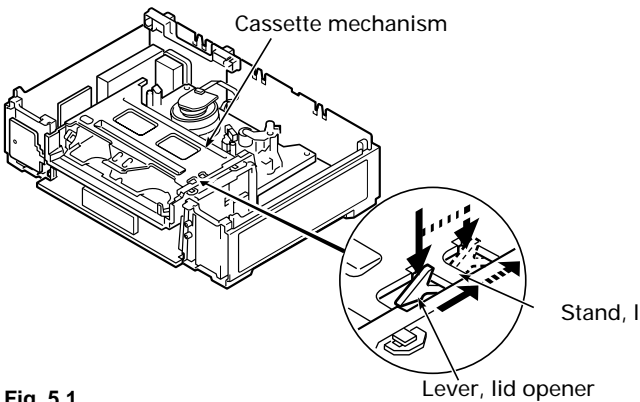
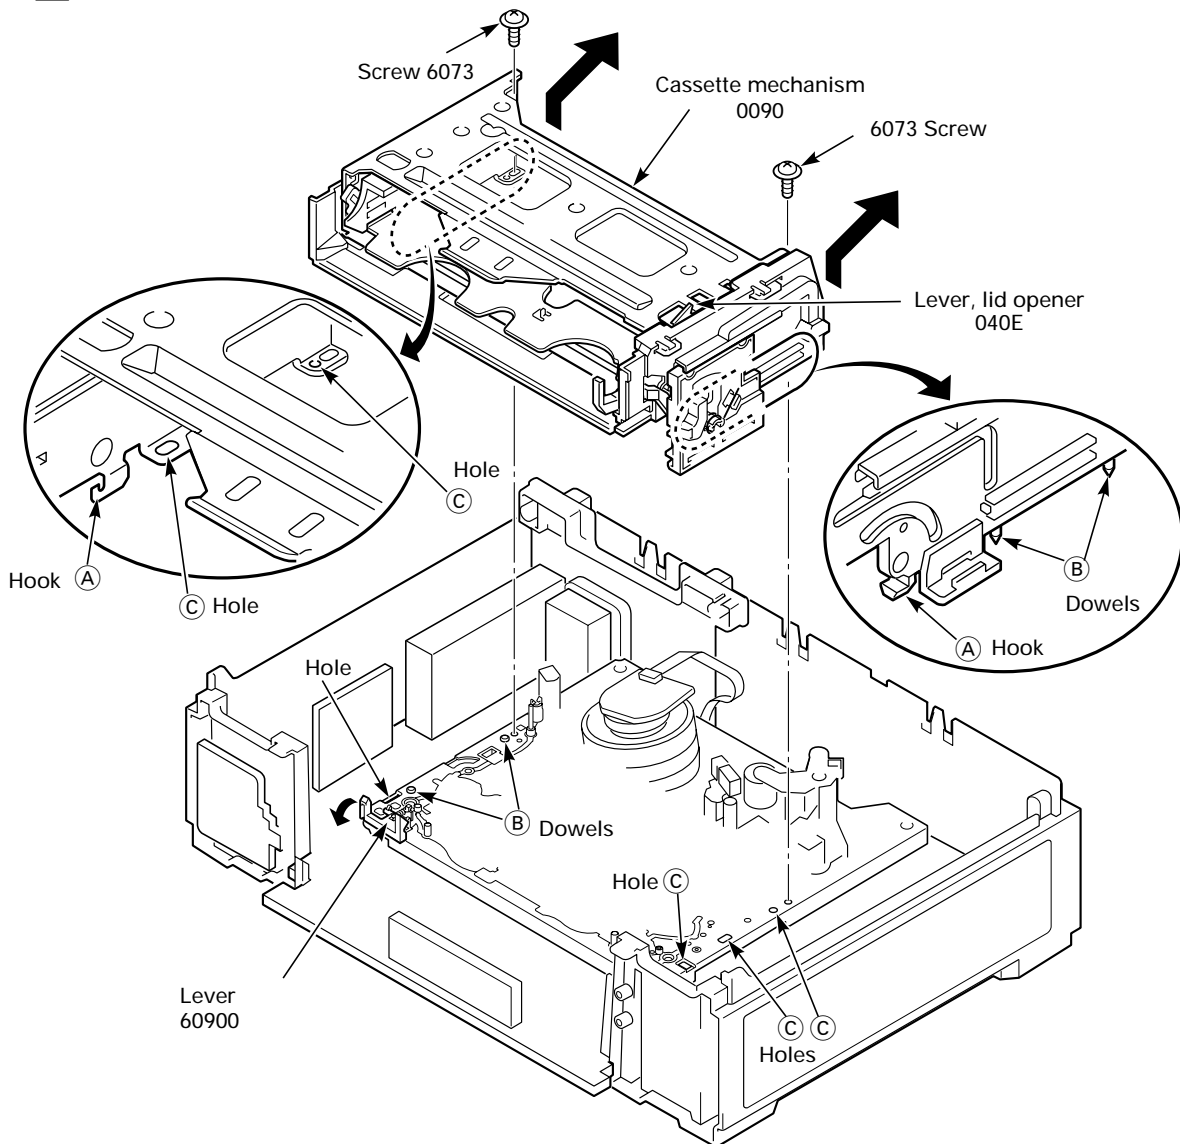

Fig. 5.1
Fig. 8.3
Note: When checking the mechanism mode positions without a cassette being loaded take care that the opening lever for the cassette lid (Pos. 040E) is unlocked (Fig. 5.1).
- Undo 2 screws (Pos. 6073, Fig. 8.3).
Note: When reassembling the cassette mechanism (Pos. 0090) the lever (Pos. 60900) must be pressed towards the front. The cassette mechanism (Pos. 0090) is positioned correctly when the two hooks (A) and the dowels (B) engage with the holes (C) (Fig. 8.3).
- Press the lid opening lever (Pos. 040E, Fig. 8.3) to release the lock and lower the tray (Pos. 040A, Fig. 5.1).